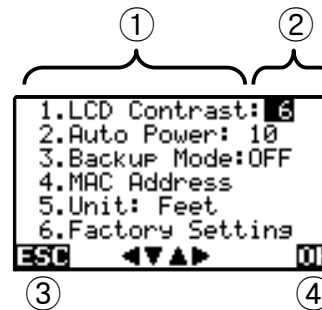

Figure 5. System Setting
- ④ Pressing F2 or OK selects or confirms, or starts the selected function.
- To change the MAC address of the tester, choose the 4th item in Figure 5 and enter the new MAC address in ① below.
- ② To exit this menu and save the changes press .
- ③ To exit this menu without saving changes press .
- You can reset the tester to default settings (6th item in Figure 5); the tester asks for confirmation. Highlight your choice using ◀▶ then press  to accept (Note the exit key is available to cancel).